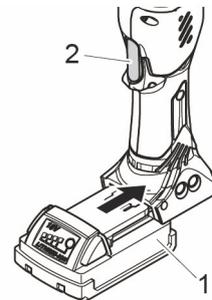

Fig. 6: Inserting the battery
3. Hold down the START button (Fig. 6/2) and reinsert battery (Fig. 6/1) at the same time. The status LEDs will blink red.